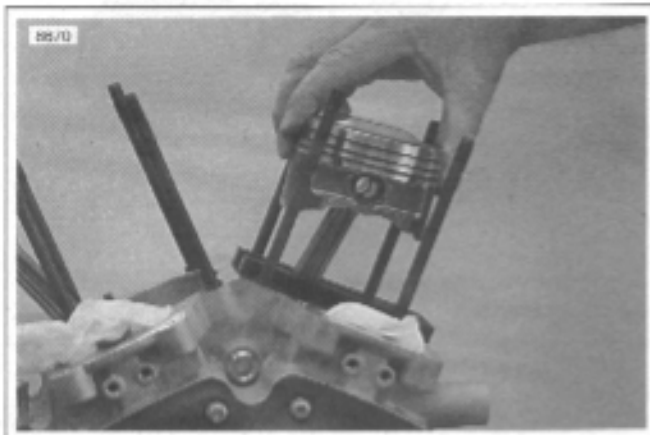

Figure 3-106. Piston Support Plate
1. See Figure 3-106. Place PISTON SUPPORT PLATE (Part No. HD-42322) in position as shown.